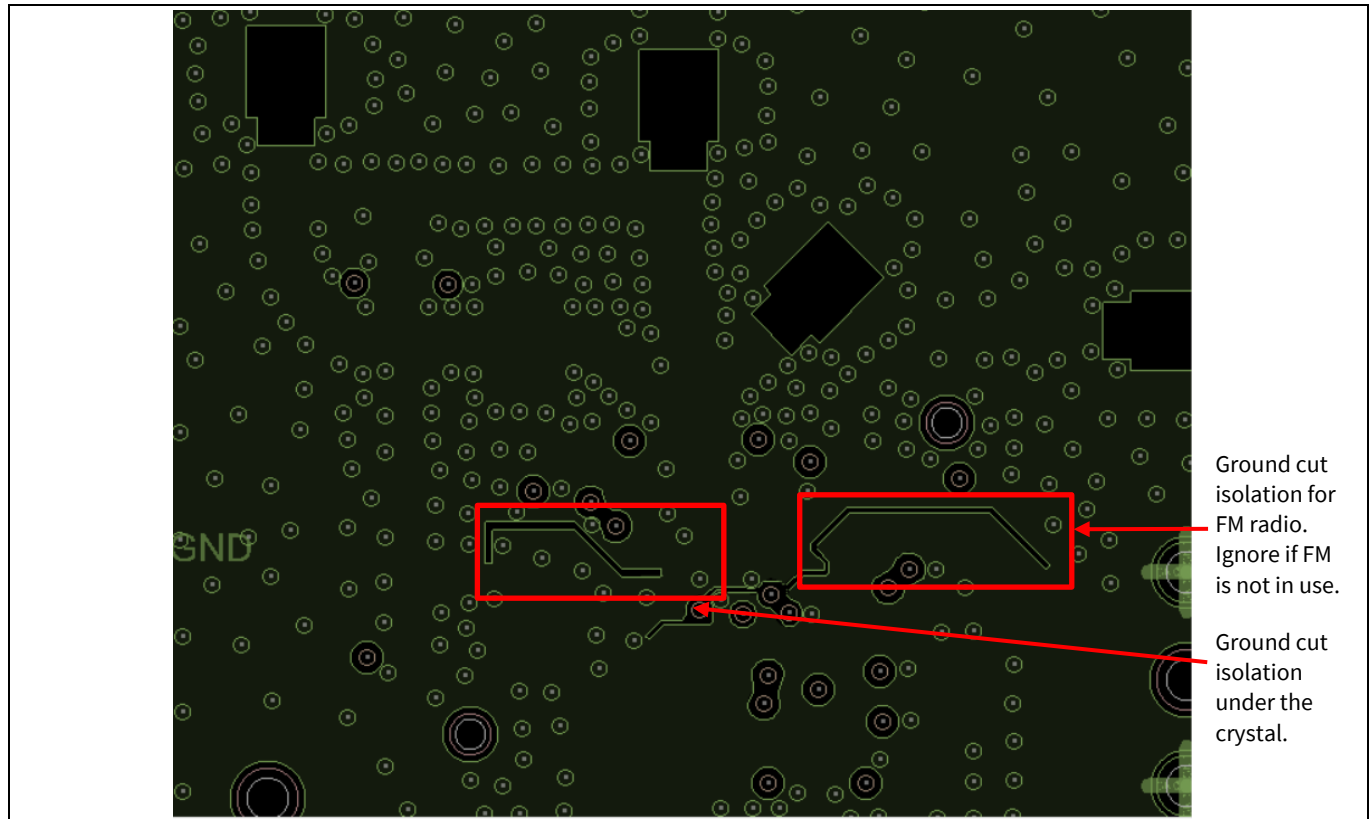

**Figure 6** CYW43439 Reference Board Layer 1
**Figure 6** shows Layer 1, the component layer, of the reference board.